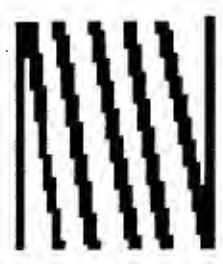

FIG. 4
- Fig 4 shows ~~compressible~~ ^A COILED spring with free height ± 14 mm, outside diameter ± 9 mm.